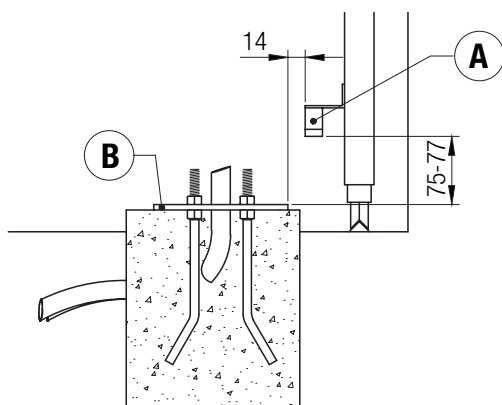

Fig. 1
- Fit the anchor bolts into the 4 holes in the foundation plate and fasten with the 4 nuts as shown in figure 1.